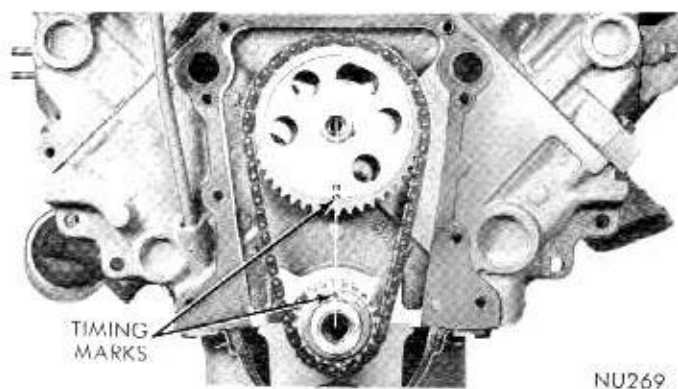

Fig. 21—Alignment Timing Marks
(7) Place both camshaft sprocket and crankshaft sprocket on the bench with timing marks on exact imaginary center line through both camshaft and crankshaft bores.
(8) Place timing chain around both sprockets.
(9) Turn crankshaft and camshaft to line up with keyway location in crankshaft sprocket and in camshaft sprocket.
(10) Lift sprockets and chain (keep sprockets tight against the chain in position as described).
(11) Slide both sprockets evenly over their respective shafts and use a straight edge to check alignment of timing marks (Fig. 21).
(12) Install the fuel pump eccentric, cup washer, and camshaft bolt. Tighten bolt to 35 foot-pounds.
(13) Check camshaft for .002 to .006 inch end play with a new thrust plate and up to .010 inch end play with a used thrust plate. If not within these limits install a new thrust plate.